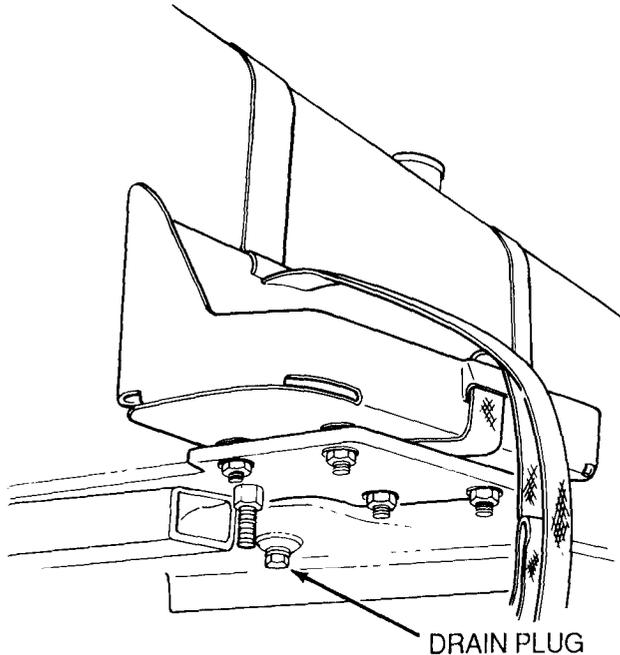

Figure 3-6
2. Loosen plug located at the bottom of fuel tank and drain until fuel runs clearly and no water remains (Figure 3-6).